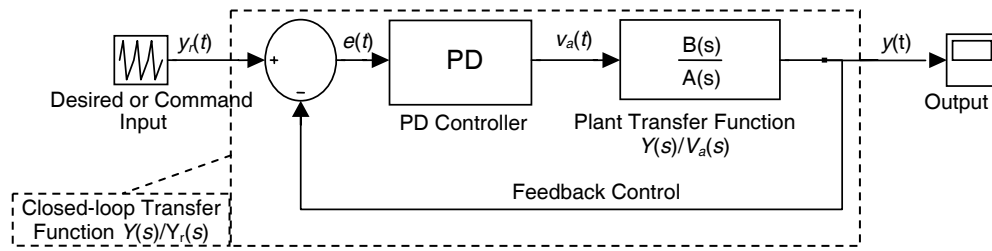

Figure 4. Feedback control of the linear system shown in Figure 1.
The proposed controller can be schematically shown in Figure 4, where both K_p and K_d have the respective “volt/m” and “volt.sec/m” dimensions and error $e(t)$ is defined as
2. Assuming zero initial conditions, transfer the governing equations developed in Part 1 into Laplace domain and find the transfer function of the system, $TF(s) = Y(s)/Y_r(s)$. This will form the closed-loop transfer function of the system from $y_r(t)$ to $y(t)$ as shown in Figure 4 (inside dashed lines).
5. With $K_p = 1$, $K_d = 0$ and $y_r(t) = 0.4$ mm, implement the open-loop block diagram of Figure 4 (with **NO** feedback line) in Simulink. Does the load follow the command properly? Draw your conclusion.
6. Implement the closed loop controller of Figure 4 in Simulink. It is now desired to vary K_p and K_d to obtain the three cases of under-damped, critically-damped and over-damped systems. Try to numerically obtain K_p and K_d . One approach is to numerically calculate the corresponding roots of the characteristic equation (using “fzeros” in Matlab, for instance) and determine the corresponding damping ration, ξ , of the dominant root (using “sgrid” in Matlab, for instance).